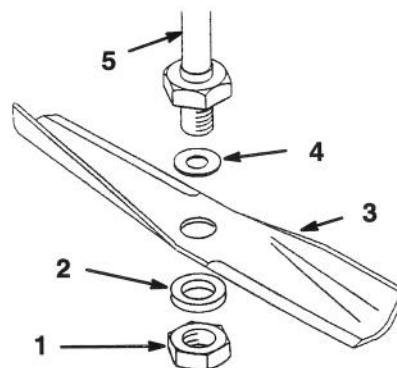

Figure 21
1. Install the washer, blade, flat washer, and the blade nut (Fig. 21).